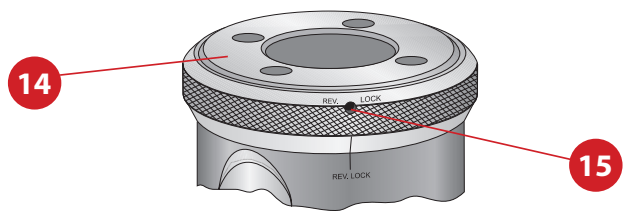

Figure B6
2. Insert a 3/32" hex wrench through the hole in the facing ring (7) and tighten the reversing lock screw (15) (see Figure B6) in the top cap (14). This prevents the head from unscrewing during reverse (counterclockwise) operation.